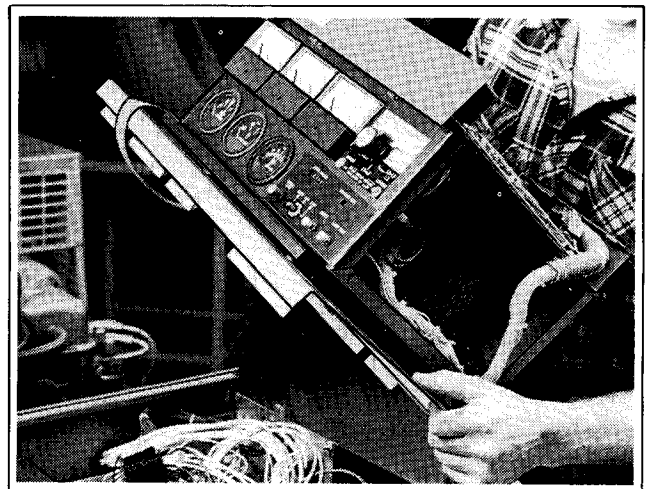

Figure 4-3. Lifting Away Controller/Access Cover
4. Disconnect canvas support strap in generator enclosure. Lift controller/access cover away from generator enclosure (Figure 4-3).